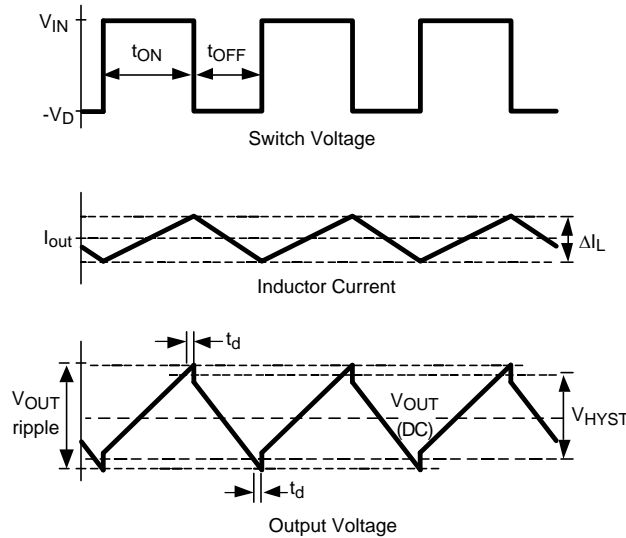

Figure 9. Hysteretic Waveforms
- $t_{off_{min}}$ is the sum of the blanking time, the propagation delay time, and the PFET delay time (see Figure 9) (2)
7.3.6 Enable Pin (EN)
Capacitors with high ESL (equivalent series inductance) values should not be used. As shown in Figure 9, the output ripple voltage contains a small step at both the high and low peaks. This step is caused by and is directly proportional to the output capacitor's ESL. A large ESL, such as in an electrolytic capacitor, can create a step large enough to cause abnormal switching behavior.